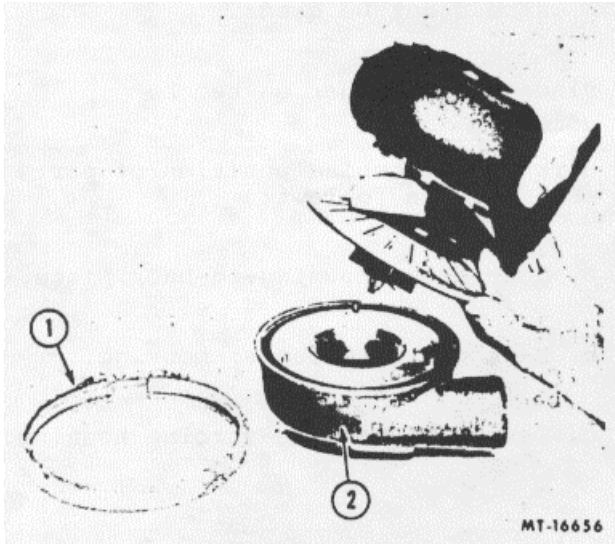

Fig. 12. Removing Compressor Housing
4. Remove the clamp or capscrews and lock plates and stand the turbocharger on the bench as shown in Fig. 12. Carefully lift the turbine housing with center housing attached from the compressor housing. A light tapping with a rubber mallet on the compressor mounting flange may be necessary as lifting pressure is applied.